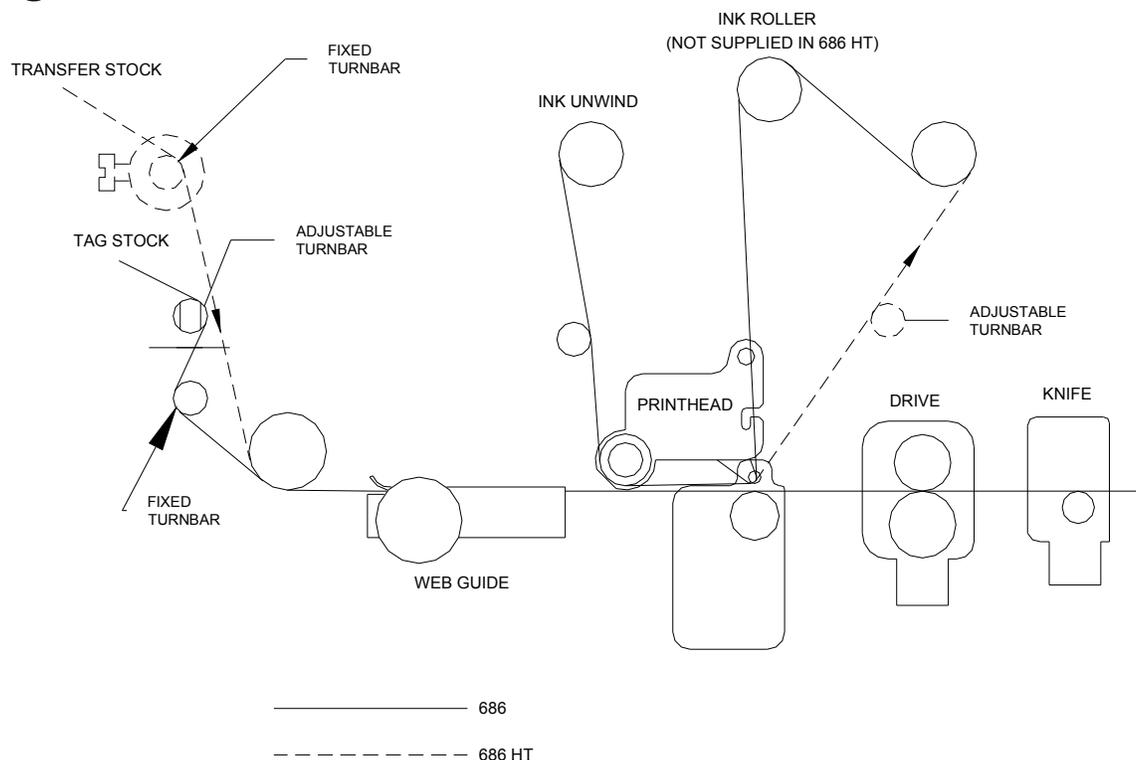

Figure 5 - Ink Threading Path
- 1) Unwrap the ink ribbon and put it on the ink-ribbon unwind arbor (*See Figure 5*) by pressing it on to the arbor when the three slots are lined up.